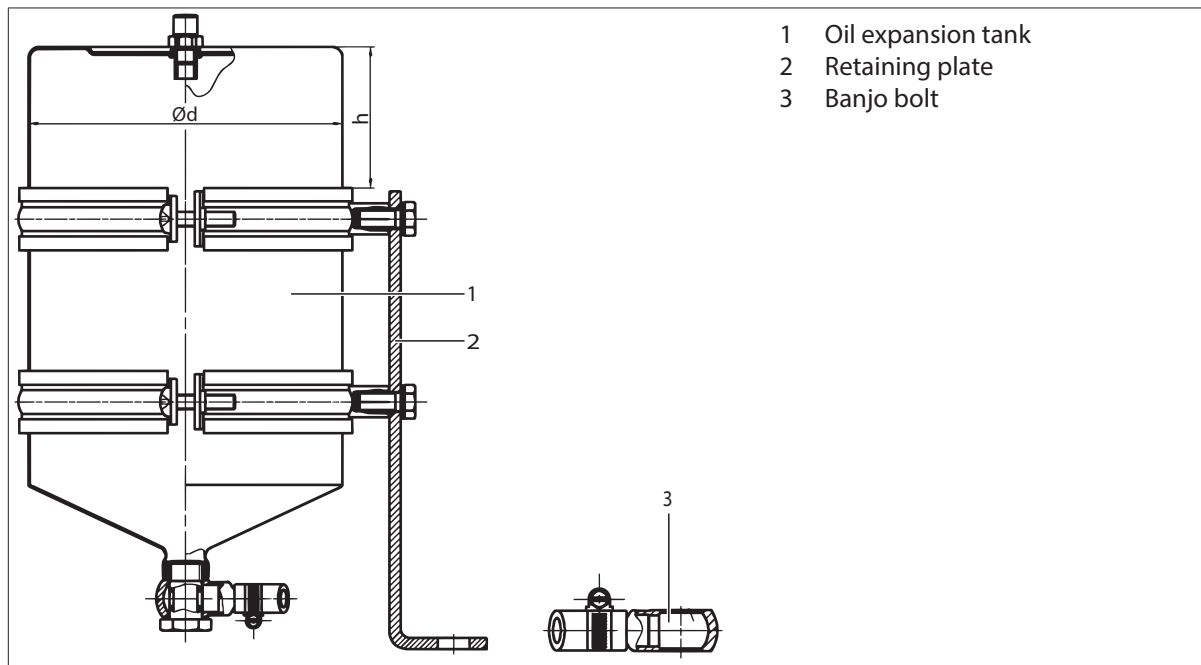

Fig. 18: Accessory set, Part 1: Oil expansion tank unit with retaining plate
- Place oil expansion tank (1, Fig. 18, p. 31) with mounted retaining plate (2, Fig. 18, p. 31) on threaded bolt (3) and fasten with spring washers (2) and hex nut (1).
2. Align the tank. When doing so, note the correct height position h of the tank, see Fig. 18, p. 31 and Tab. 12, p. 31.